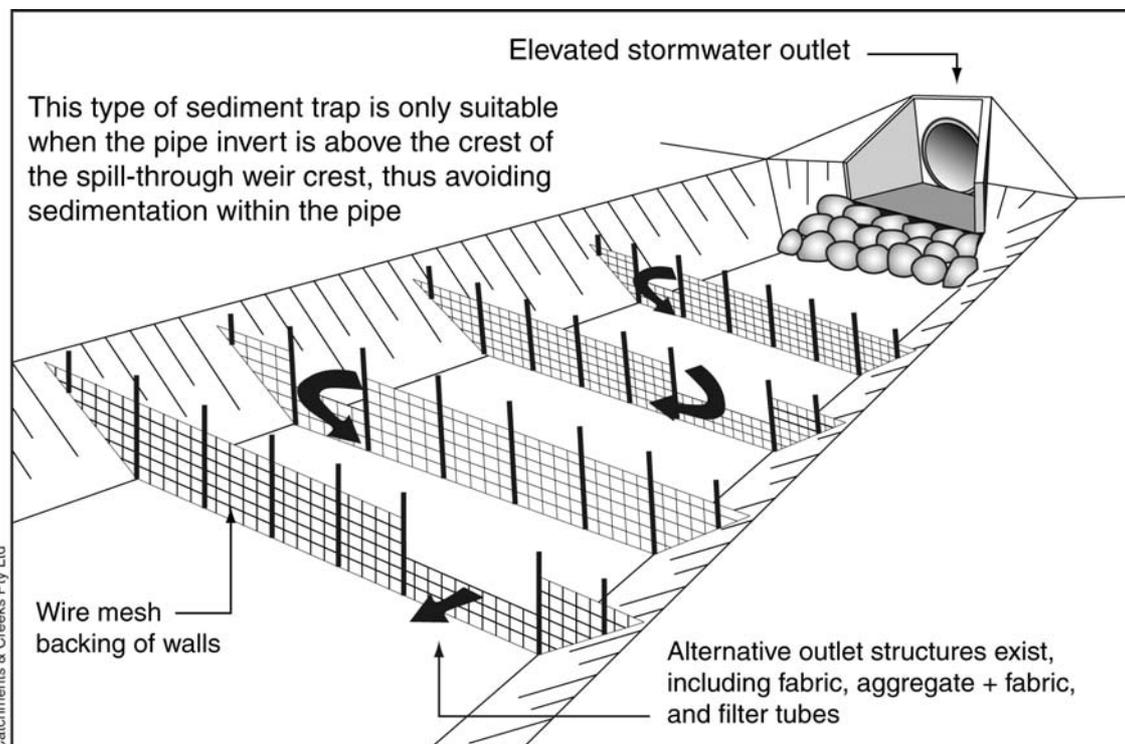
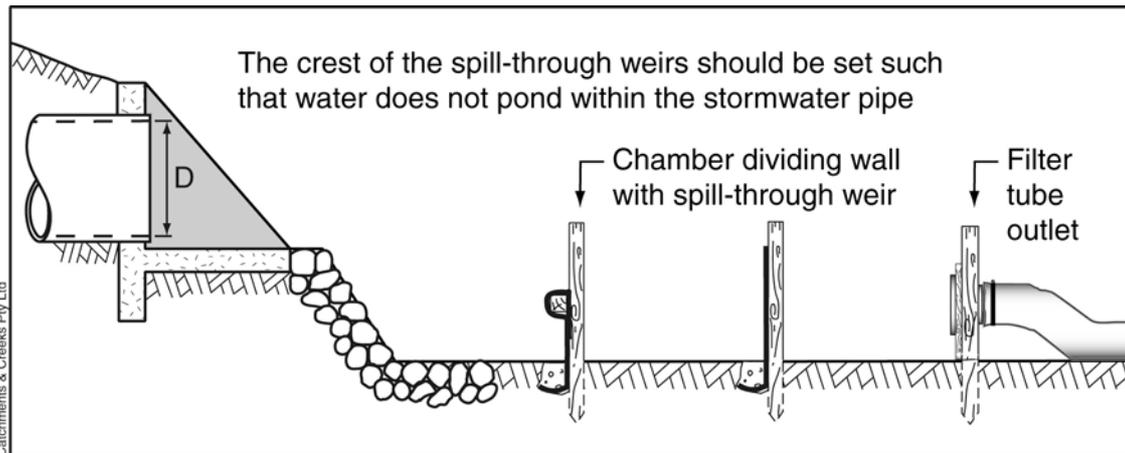
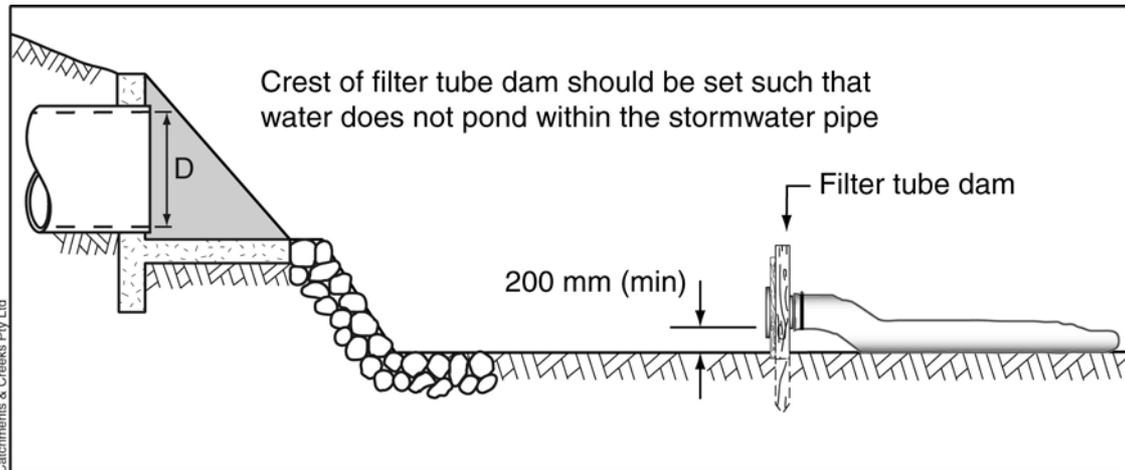
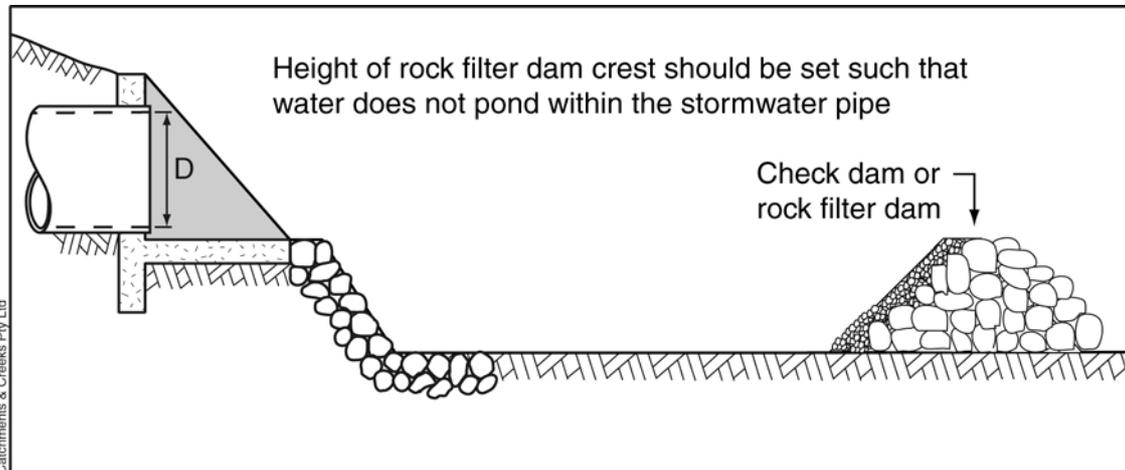

Figure 2 – Partially enclosed coarse sediment trap located at a stormwater outlet
Figure 3 – Coarse sediment trap placed downstream of an elevated stormwater outlet
Figure 4 – Filter tube dam placed downstream of an elevated stormwater outlet
Figure 5 – Rock filter dam placed downstream of an elevated stormwater outlet
3. Sediment collection is primarily achieved through gravity-induced 'sedimentation'; however, the process can be improved by incorporating a filtration system such as a *Filter Tube Dam* (Figures 3 & 4) or *Rock Filter Dam* (Figure 5).
In circumstances where the stormwater pipe discharges at least 300mm above the receiving discharge channel, a *Coarse Sediment Trap* (Figure 3), and/or *Filter Tube Dam* (Figure 4) can be incorporated into the sediment trap to improve the sediment capture process.
In circumstances where the stormwater pipe discharges at least 500mm above the receiving discharge channel, then in addition to the above options, a *Rock Check Dam* or *Rock Filter Dam* can be incorporated into the excavated sediment trap (Figure 5). To further improve the treatment process, *Filter Tubes* can be incorporated into the *Rock Filter Dam*.
In circumstances where the stormwater pipe discharges at least 300mm above the receiving discharge channel, a *Coarse Sediment Trap* can be installed within the discharge channel as shown in Figures 2 & 3. If the chamber is partially confined by earth banks (as in Figure 2), then the final sediment fence can be replaced with a more elaborate filtration system (Figure 3). Examples of these alternative outlet structures are provided within the separate fact sheet for *Coarse Sediment Traps*.
Figure 3 shows an example of a *Coarse Sediment Trap* placed downstream of an elevated stormwater outlet.
Figure 4 shows an example of a *Filter Tube Dam* placed downstream of an elevated stormwater outlet.
Figure 5 shows an example of a *Rock Filter Dam* placed downstream of an elevated stormwater outlet.